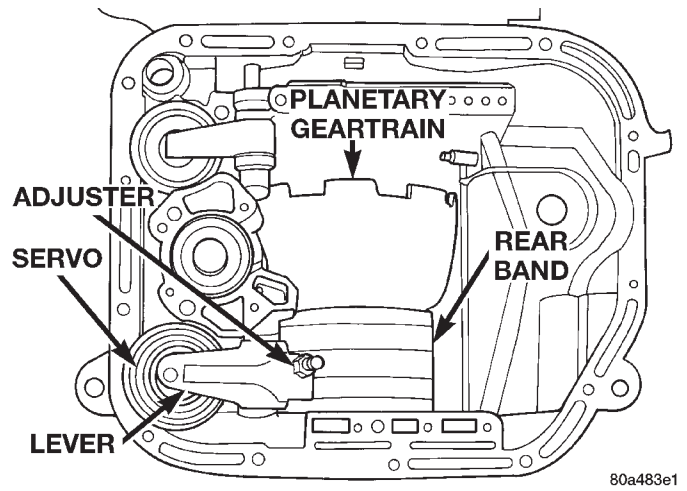

Fig. 80 Rear Band Adjuster Location
- (26) Loosen rear band adjusting screw 4-5 turns (Fig. 80).